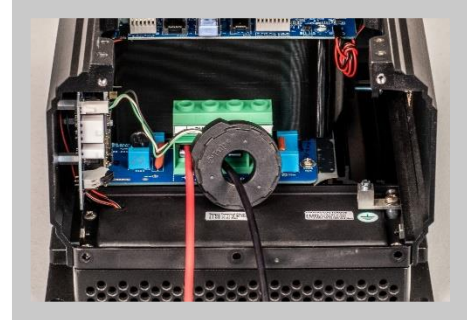

Figure 9
3. Pass the PV- cable through the AF toroid, Figure 9.